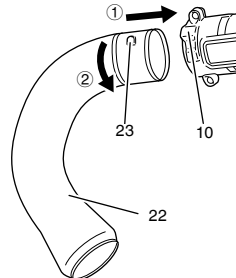

Fig. 9
- Connect bent pipe (22), Align projection (23) in bent pipe with groove (10) on blower housing and slide the pipe onto the blower housing. Rotate the pipe clockwise to lock it into place. (Fig. 9)